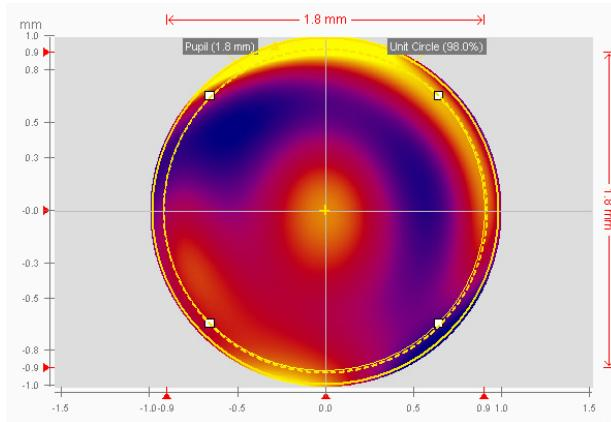

Figure 47: Creating a circular pupil mask.
4. Click and drag its square handles until the circle fits the diameter of the data (Figure 47).